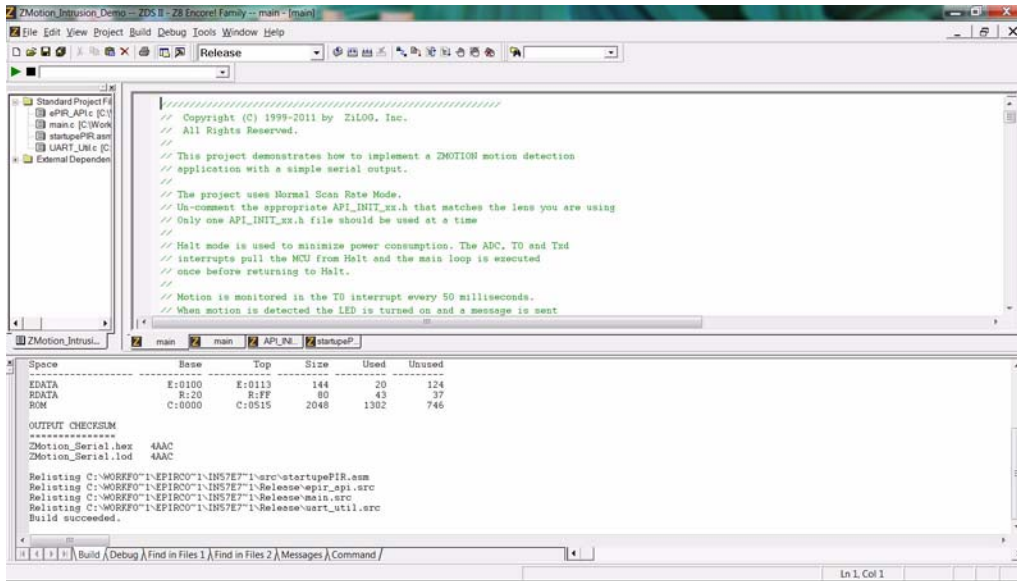
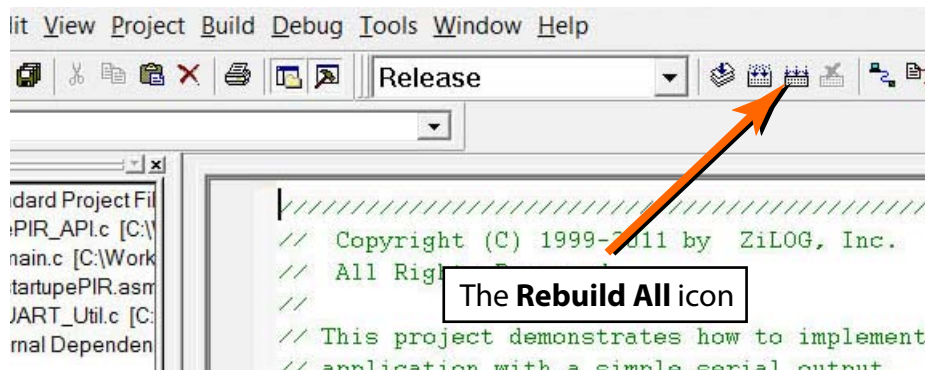

Figure 4. Building the ZMOTION_Intrusion_Demo project in ZDSII
Figure 5. The Location of the Rebuild All icon
3. Click the **Rebuild All** icon to build the project. The build output should not indicate any errors. If you receive errors, try reloading the projects from the original Application CD and ensure that the folders are not set to **Read Only**. See Figure 4 for an example; Figure 5 indicates the location of the **Rebuild All** icon in the ZDSII menu bar.